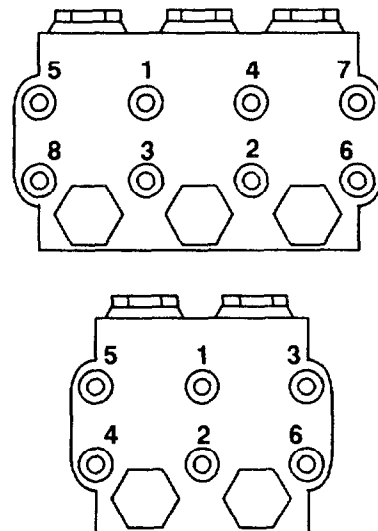

Figure 3
8. Install the capscrews and washers finger-tight. Torque the screws to 21.7 ft-lb (29 Nm) following the tightening pattern (Figure 3). Uneven tightening may cause the manifold to bind or jam.